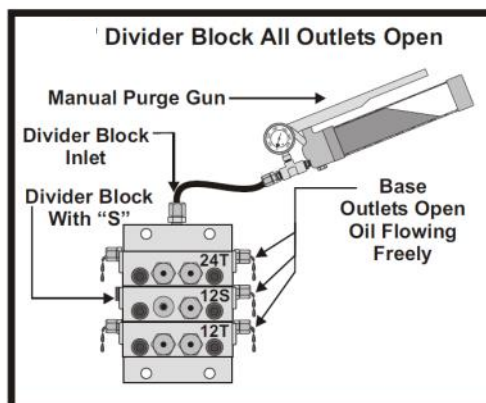

Fig. 8
4. **Step D4:** When testing indicates blockage is in the divider block, before disassembly, remove all piston enclosure plugs, see (fig. 8). Without removing the pistons use a brass rod and finger pressure only to move each piston back and forth. If all pistons are moveable, replace the enclosure plugs and retest the assembly by pumping oil into the inlet. (Blockage may have been dislodged and the assembly may be in working condition without further service.) If piston is jammed or wax like substance or dirt is found in the piston bore, the divider block must be disassembled and cleaned. Before removing, make a note of divider block
Place the divider block assembly in an open container with all base outlets open. Connect the purge gun to the inlet of the divider block assembly. Operate the purge gun to cycle the divider block several times to purge air from the assembly and verify that oil will flow freely from all outlets. Divider blocks should cycle at less than 300 PSI. (See fig. 8).